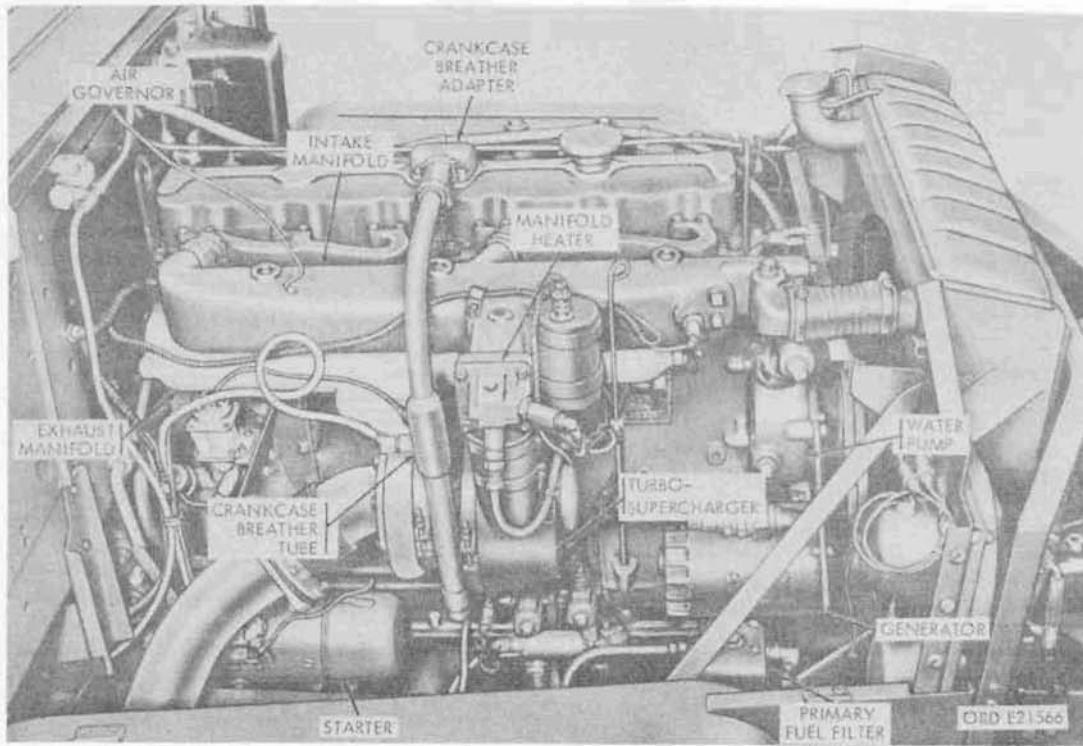

Figure 101. Right side of installed engine - multifuel
a. Engine (Figs. 101 and 102). The engine is a six-cylinder, in-line, liquid-cooled, compression ignition engine with 140 brake horse-